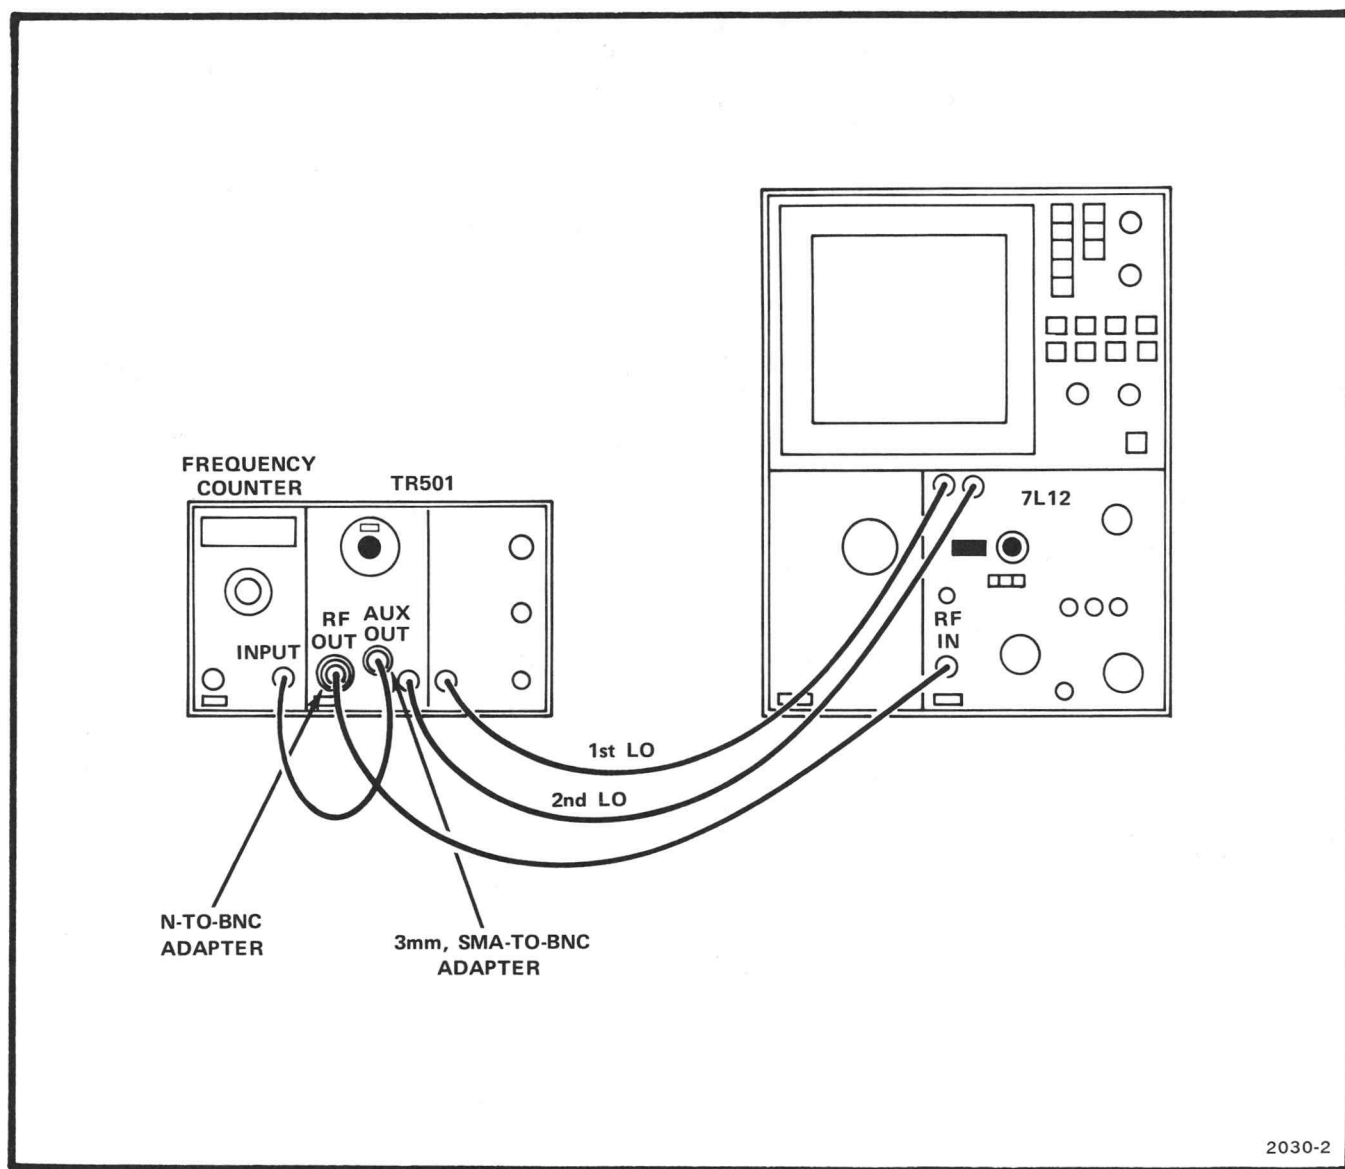

Fig. 2-1. TR 501/7L12 Spectrum Analyzer System with a Frequency Counter.
b. Using the coaxial cables, supplied with the standard accessories, connect the 1st and 2nd LO Output ports of the spectrum analyzer to the 1st and 2nd LO Input ports of the TR 501, then connect the RF OUT to the RF Input of the spectrum analyzer. If a frequency counter is used, connect the AUX RF OUTPUT of the TR 501 to the RF Input of the counter. Fig. 2-1 illustrates system hookup.